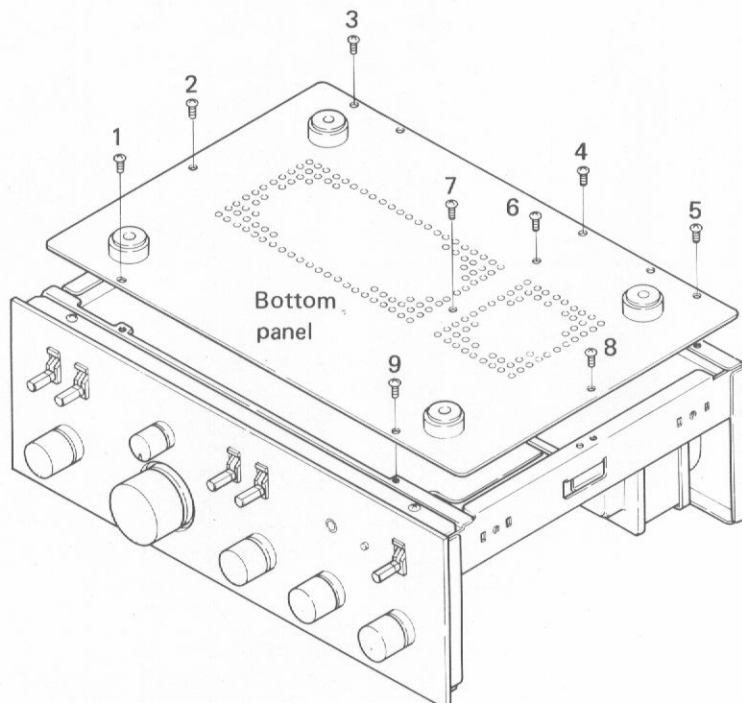

Fig. 4
1. Remove the 1 ~ 9 screws to detach the bottom panel as shown in Fig. 4.